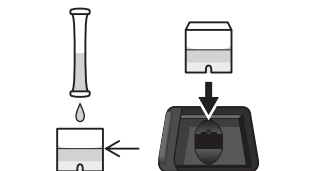

Fig.7
6. Gently return the solution in the tube to the Cell when the time count down reaches under 1 minute, set it again in the cell box. (Fig.7)